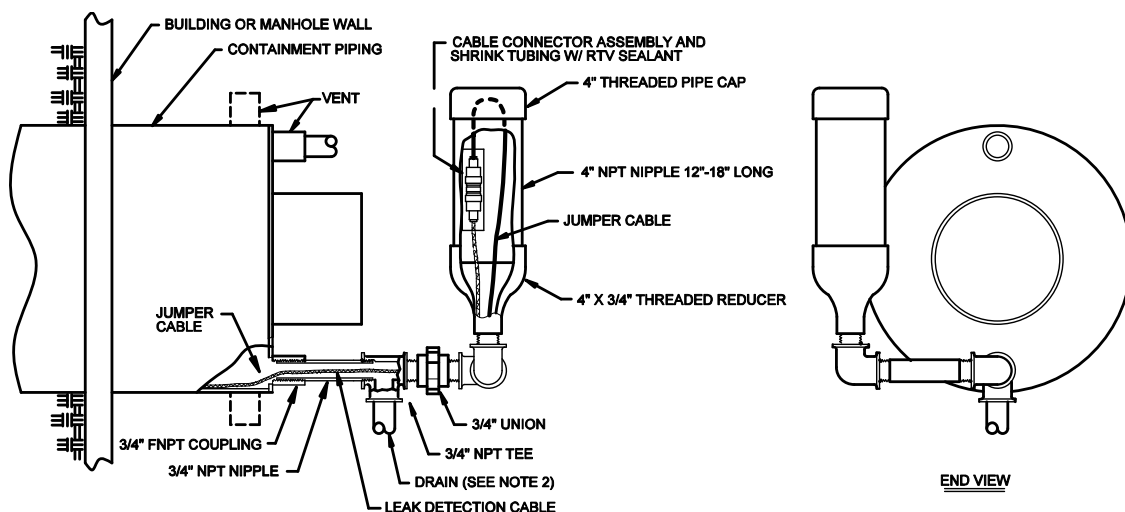

Figure 5-3
drawing showing locations requiring the installation of sensor cable and jumper. Depending on the design of the secondary contained system and the free unobstructed air space available, both cables (sensor and jumper) may be installed in the secondary containment air space. This will require simultaneously pulling both cables, and most likely will reduce the length of cables that can be pulled at one time. When 2 cables are installed in the same air space, both cables must be pulled out of the secondary containment through the threaded coupling and finally connected together with a cable connector in either: (1) a watertight capped pipe chamber connected to the threaded coupling, as shown in figure 5-3 or (2) a NEMA 4X [IP66] junction box. This type of termination should also be accessible to allow for future maintenance. As an alternative to pulling both cables into the air space of the secondary containment, jumper cable can be routed in electrical conduit. If connectors must be used, it is recommended they be installed in accessible watertight NEMA 4X [IP66] junction boxes located at grade.
2. All sensor cable termination chambers (see figures 5-3 and 5-4) must be completely installed before applying the air test. Also, cap any open vents or drains. Be careful to prevent the pull rope or sensor cable from being blown back into the secondary containment.